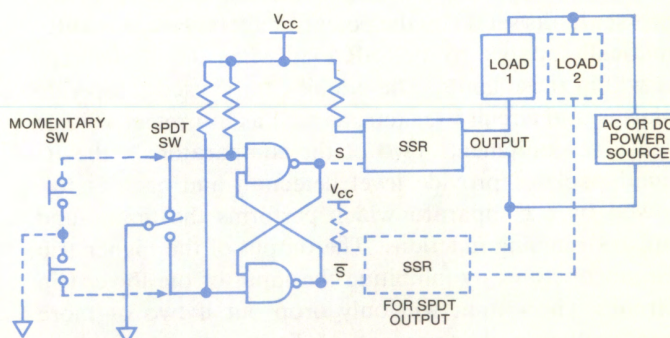

Fig. 2-24 Bounce suppression and latch circuit.
2.6.10 Bounce Suppression and Latch Circuit (Fig. 2-24)